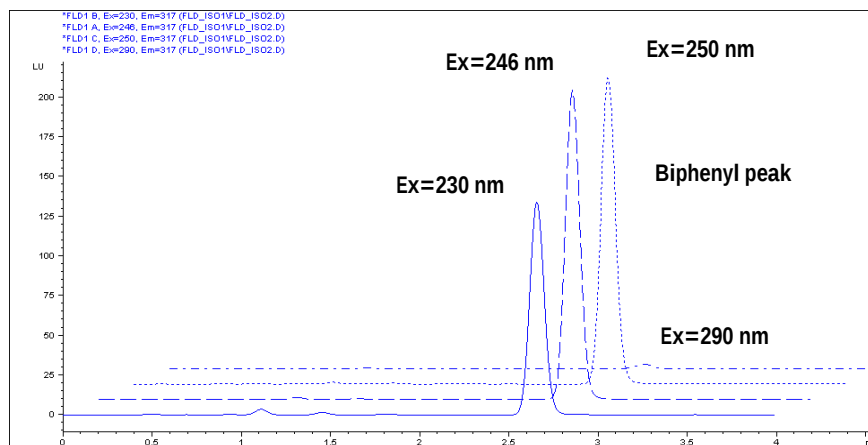

Figure 26 Biphenyl peak with different excitation wavelengths
- 4 The resulting chromatograms are shown in Figure 26: